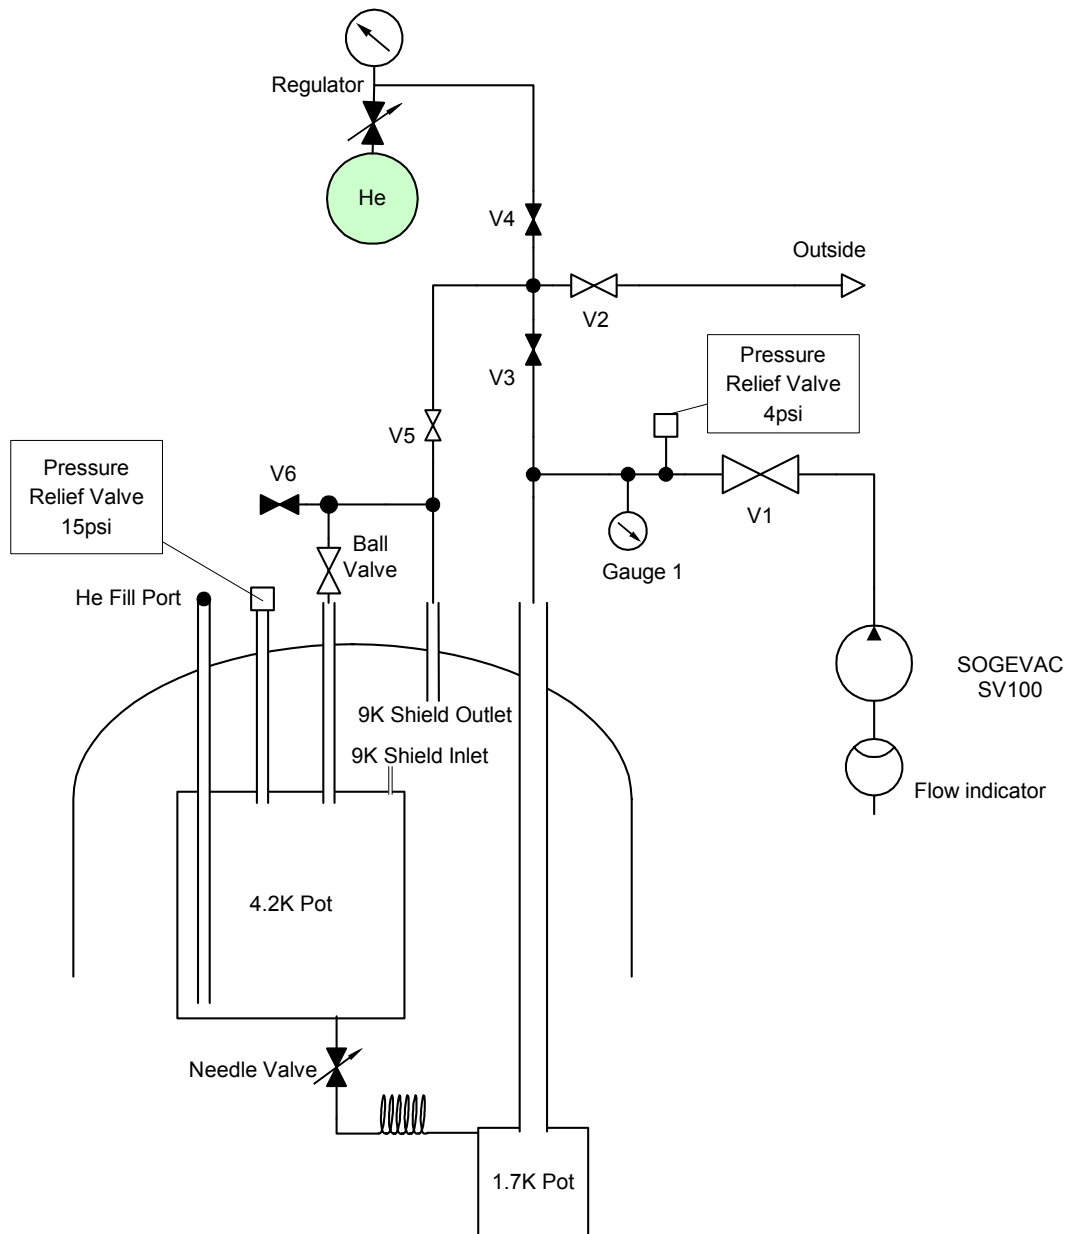

Figure 4: Schematic of He tank purge/fill system
1.1.	Attach a supply of warm, dry, high purity helium nitrogen gas (in place of He cylinder) as shown in Figure 4 Figure 4 . Open regulator on He-N2 supply to 0.1bar 2psi . Use fine regulator to set to 2psi 0.1bar and check flow with flowgauge. Check that the 1.7 K vessel is protected by a 0.25bar 4psi pressure relief valve. Close all valves. Attach blanking plate to He fill port to provide vacuum seal.